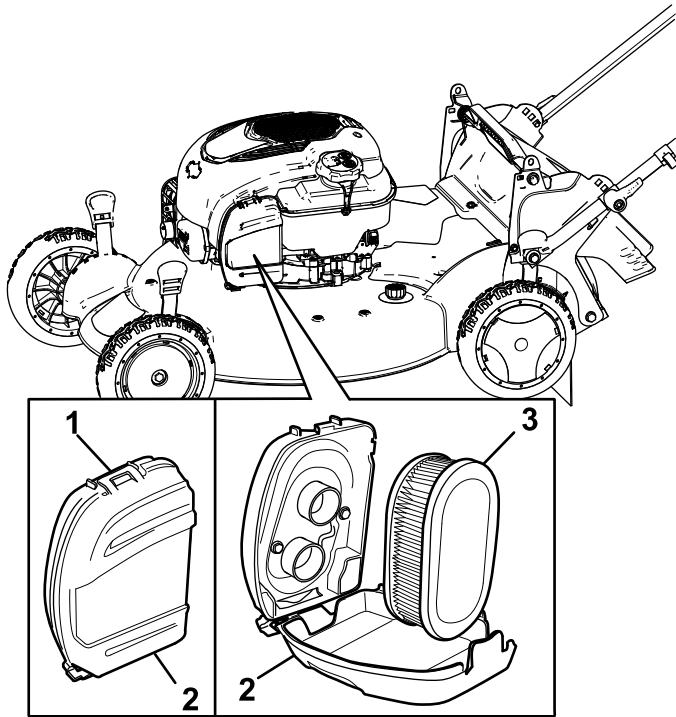

Figure 38
1. Unclip the top of the air-filter cover (Figure 38).
2. Remove the air filter (Figure 38).